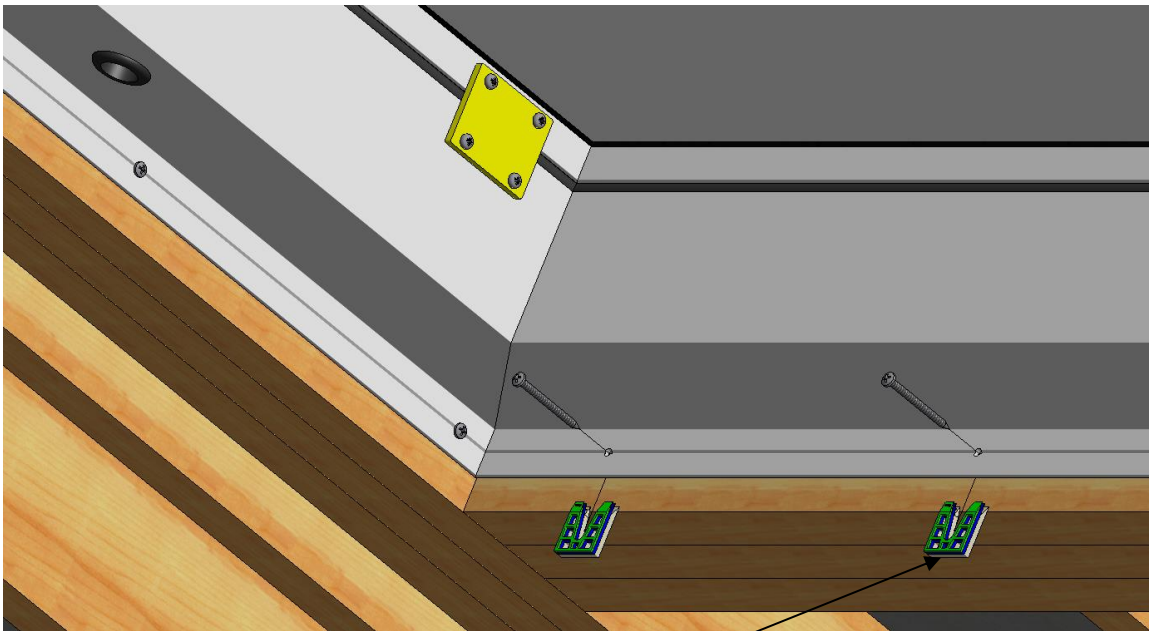

Fig. 4e – Fixing detail (from inside)
- Positioning the packers as needed, to ensure that the product is centrally positioned, fix the product into place using the appropriate fixings (woodscrews supplied) (fig. 4e) - if doing a dry fit, screws through some of the fixing holes into the rafters can be used to temporarily hold the product in place